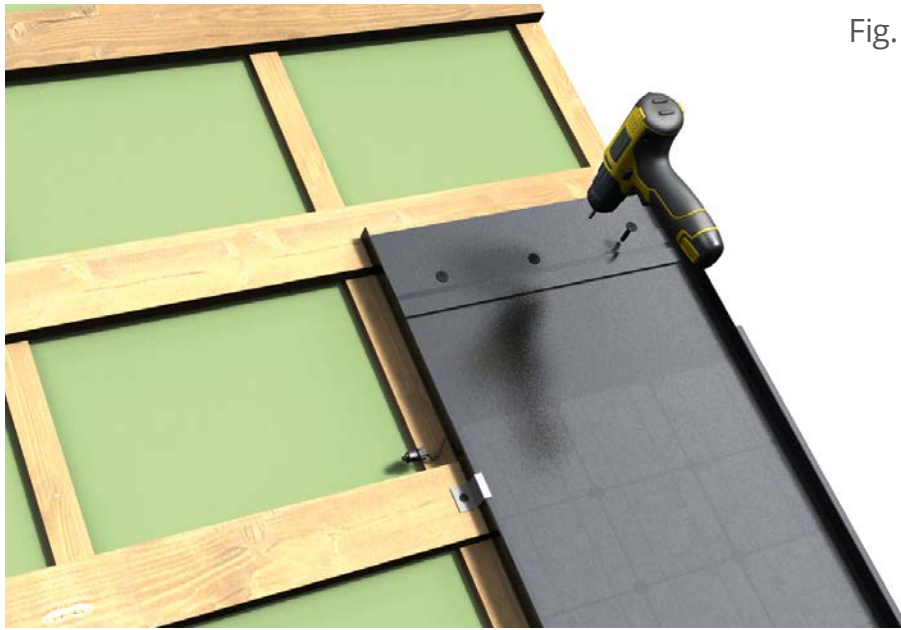

Fig. 13
- d.** Fastening small overlapping element by flat headed screws (Fig. 13).